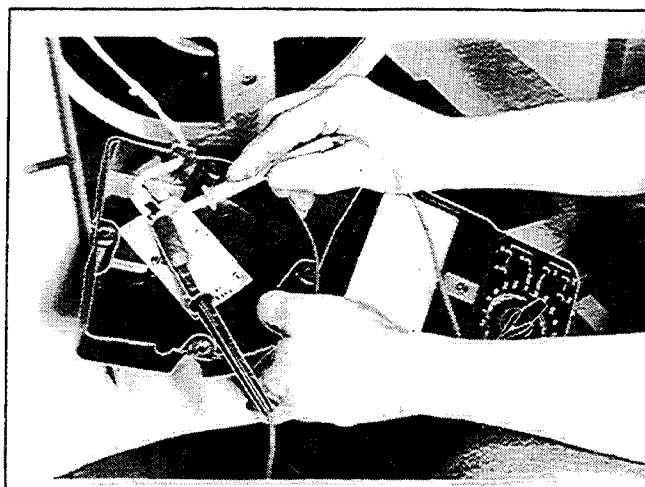

Figure 4-3. Checking LED Board
4. With the generator set running, approximately 1-2 Volts DC should be observed at 3B (+) and 5B (-) at the LED board (see Figure 4-3). Shine flashlight on photo transistor. DC voltage reading should drop, showing that AVR is functioning properly. If voltages are not observed, refer to the AVR test.